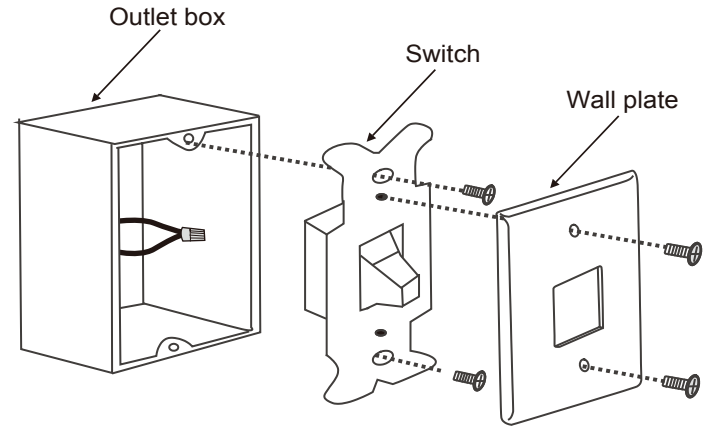

Fig. 28
**Step 1.** Remove the existing wall plate and the old switch from the wall outlet box. Wire nut the BLACK leads (hot) together and push back inside the outlet box. (Fig. 28)